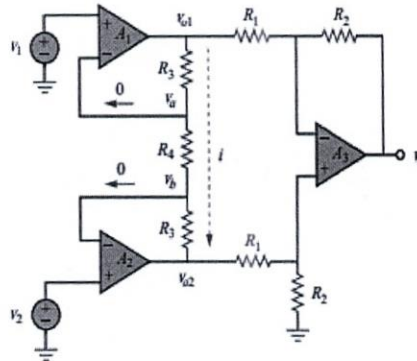

Fig: 01
4. b) Identify the following op-amp circuit (Fig:01). Show that the final gain of the circuit is, $A_v = (R_2 / R_1) (1 + 2R_3 / R_4)$ 5